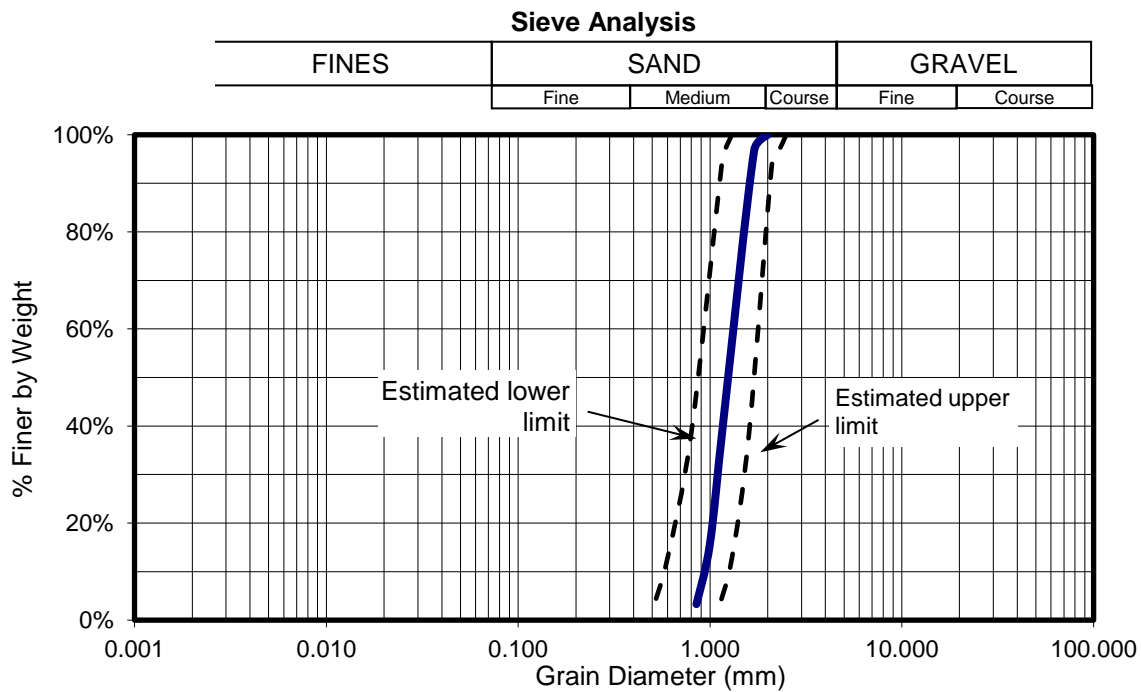

Figure 3: Estimated grain size distribution of backfill sand
- Backfill Material-** The backfill material will be sand provided by competition organizers on site. The sand will be a clean, dry, rounded to subrounded sand with grain size as specified in Table 1 and Figure 3. The backfill material must be used as-is: no water, additives, or chemical stabilizers may be placed in the backfill material.
Competition organizers will make reasonable efforts to ensure the competition backfill materials meet the specifications in Table 1 and Figure 3. Teams will be allowed to examine a sample of the competition backfill at the captains’ meeting. No backfill samples may be removed from the meeting room. Teams may modify their wall design at this time if they desire. See section 11 below.